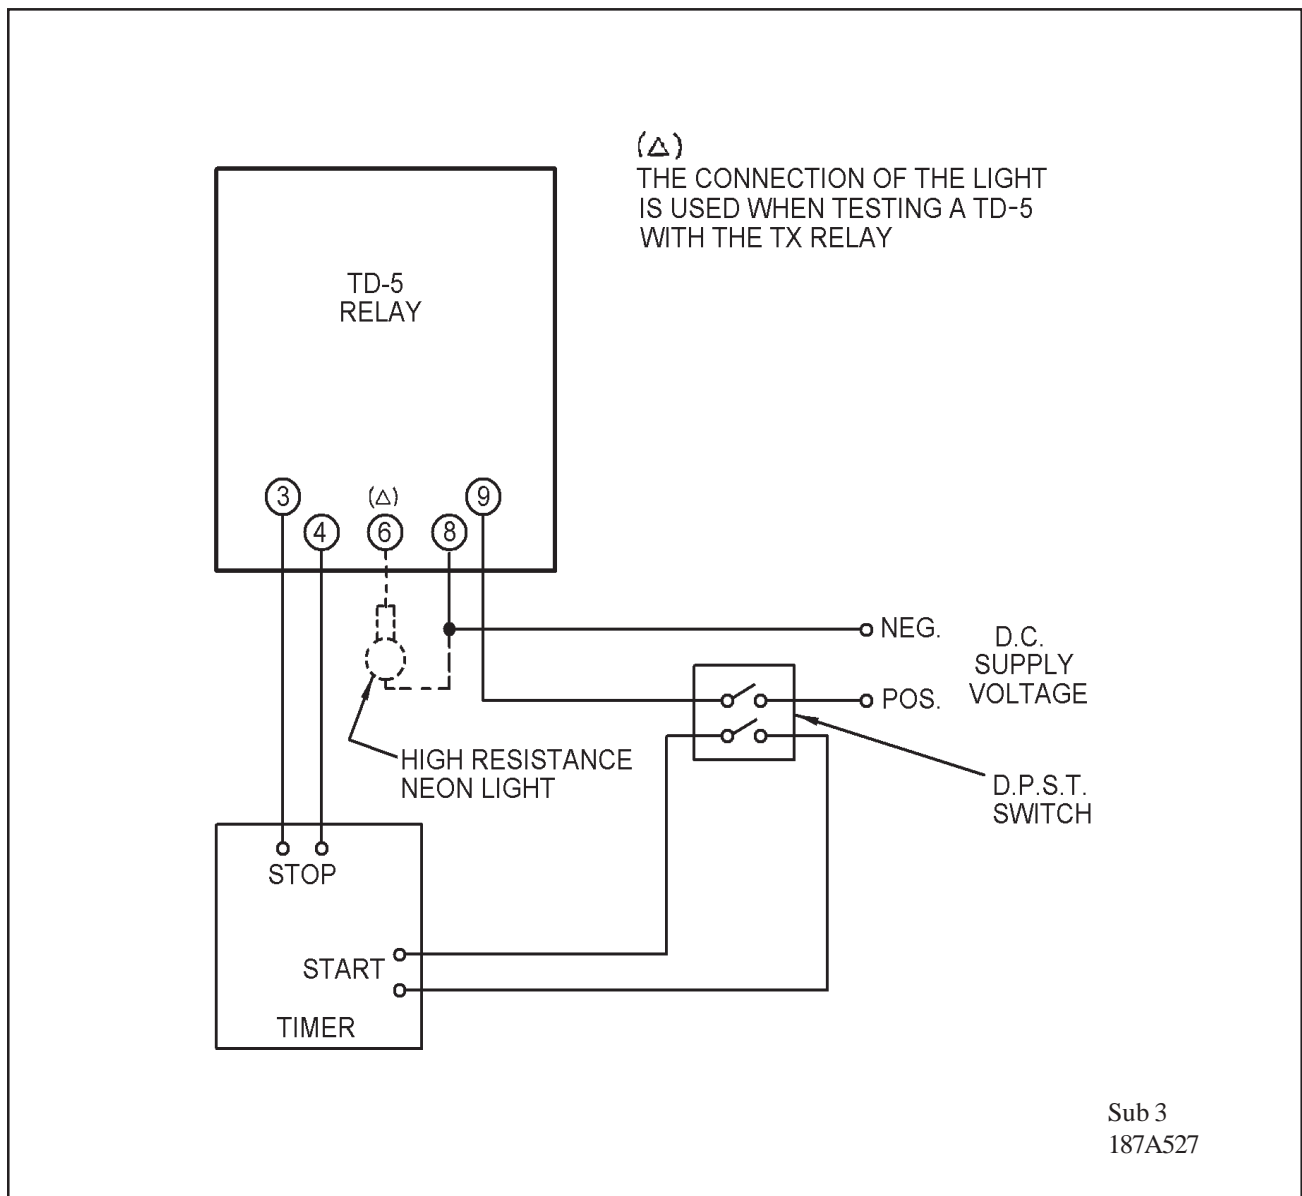

Figure 4. Test Circuit for Type TD-5 Relay
The first time delay, as measured with the test circuit shown in Figure 4, taken at 25° C and rated voltage, will be within four milliseconds of its setting for settings of 0.2 seconds or less. For settings above 0.2 seconds, this accuracy will be ±2%.
The following check is recommended to insure that the relay is in proper working order. Perform a timing check at minimum and maximum settings. A recommended test circuit is shown in Figure 4. When testing the TD-5 with a TX relay make the dotted connection as shown
in Figure 4. The neon lamp will light if the TX relay is operating properly.
2. Check the reference voltage circuit. This is done by measuring the dc voltage across the silicon power regulator, Z or Z1. Connect the dc voltmeter positive terminal to the bottom terminal of RS and the negative terminal to relay terminal 8. Apply rated voltage per the test circuit diagram, Figure 4. The Zener voltage should be between 11.0 and 14.0 volts for 24/32 VDC relays, between 21.5 and 25.5 volts for 48/125 VDC relays, and between 50 and 59 volts for 250 VDC relays.